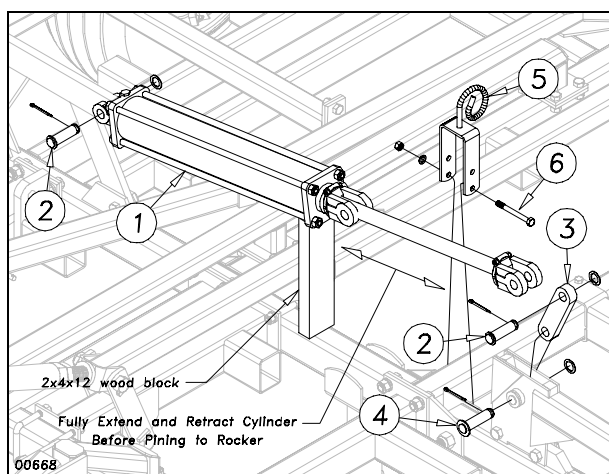

Figure 10
Connect the center fold 4 x 24 cylinders (1) to the center fold bracket as shown in Figure 10. Use the 1" x 3 1/2 clevis pin (2) with 1" machine washer and 3/16 x 2 cotter pin. Attach the 5 3/4" (3-section) or 6 1/2" rocker (5-section) (3) to rocker bracket with 1 x 3 Headed Pin (4) using 1" machine washer and 3/16 x 2 cotter. **Do Not Connect Rod End Of Cylinders To Rockers Before They Are Charged With Oil.**
On 5-section models, connect the base of the 4 x 16 fold cylinders (7) to the Rocker/Fold bracket with 1 x 3 1/2 clevis pin (2), 1" machine washer and cotter (see Figure 10). **Do Not Connect Rod End Of Cylinders To Rockers.** Bolt the hose holders (5) to the center frame with a 1/2 x 4 1/2 hex bolt (6), using a lock washer and hex nut.